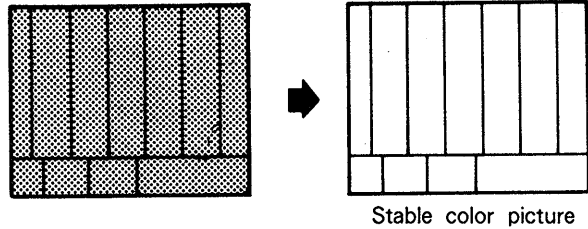

Fig. 8-4.4. Monitor screen
- Specification : Color-sync is stable. See Fig. 8-4-4.
- Confirmation : Color-sync is stable. See Fig. 8-4-4.